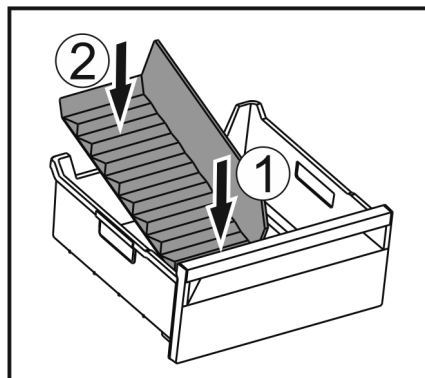

Fig. 185
- Insert the front part of the ice compartment divider. Fig. 185 (1)
- Lower the rear part of the ice compartment divider to the drawer bottom. Fig. 185 (2)